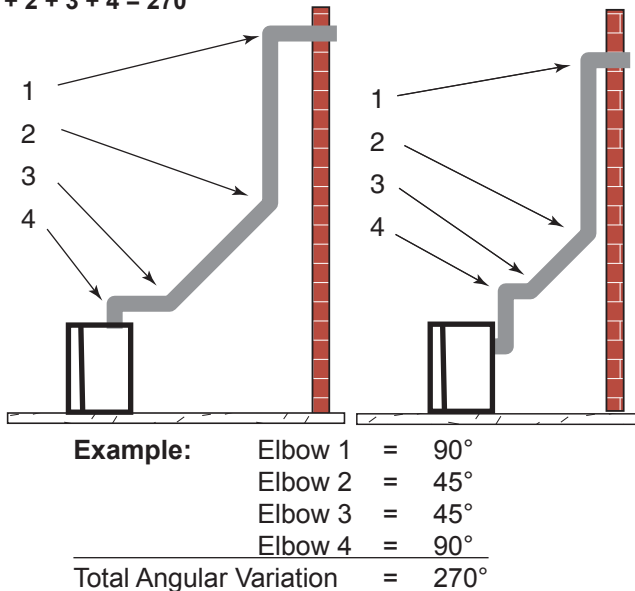

Figure 24 - Maximum Elbow Usage
- The maximum number of 45° elbows permitted per side wall installation is two (2). These elbows can be installed in either the vertical or horizontal run.
- The maximum number of elbow degrees in a system is 270°. *Figure 24*